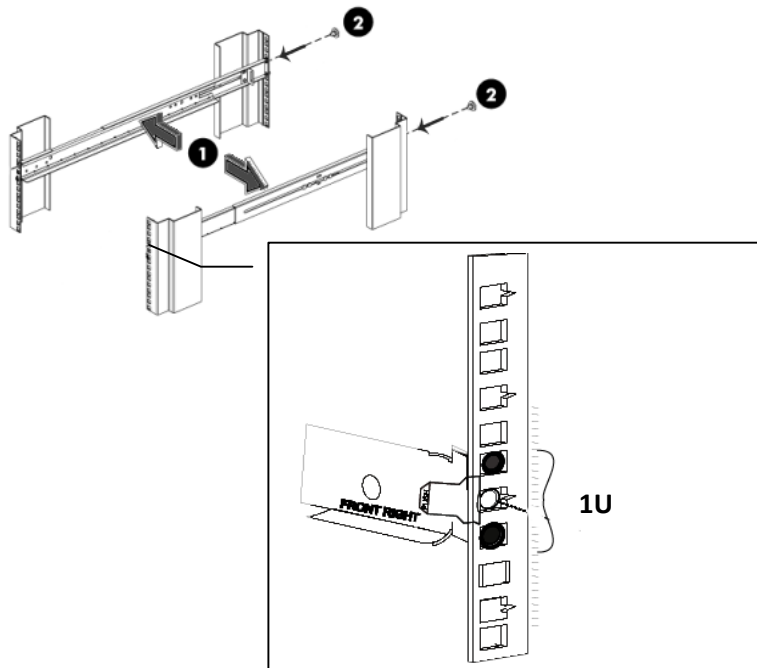

Figure 1: Attach the rails to the rack columns
1. Position left and right rack rails at the desired 'U' position in the rack (step 1 in Figure 1).
2. Push the release tab to hang the hooks of the rails onto the rack holes and release the tab to snap the rails into place. Secure the back end of the rails to the back rack columns by using the screws provided (Step 2 in Figure 1).